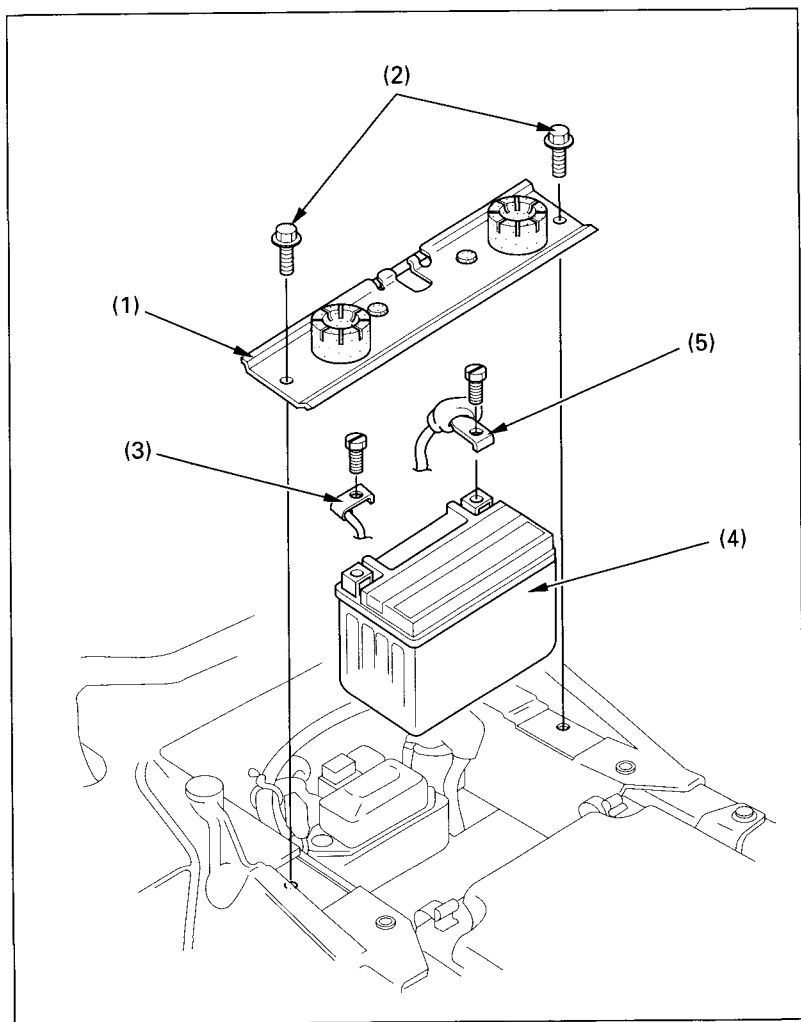

Fig. 4-19
3. Remove the battery holder (1), (Fig. 4-19) by removing the mount bolts (2).
4. Disconnect the negative ($-$) terminal lead (3) from the battery (4) first, then disconnect the positive ($+$) terminal lead (5).